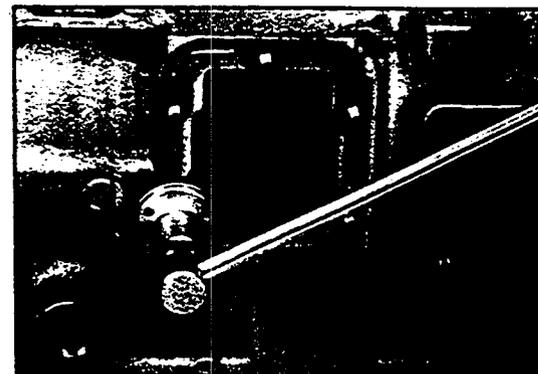

Fig. 4
4. Tighten the studs to 17 - 19 lbs. ft. (2.38 - 2.66 kg. meters) and then torque the capscrews to 32 - 37 lbs. ft. (4.43 - 5.12 kg. meters) for the 6 or 8 bolts. (See Fig. 4.)